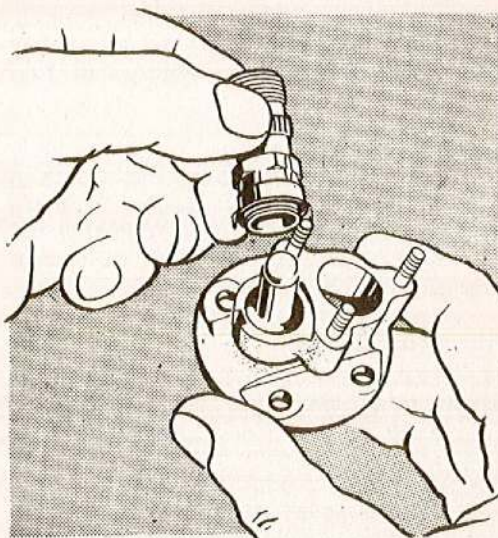
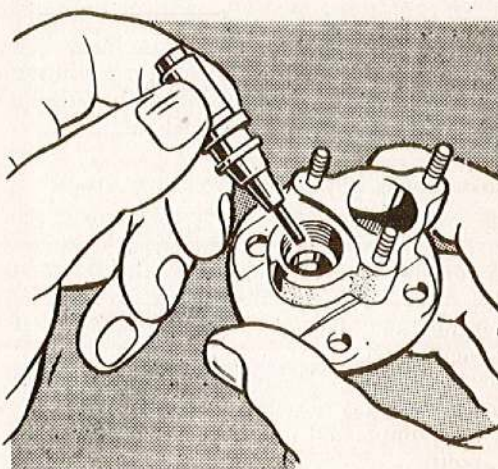

Fig. 5. Removing the H.T. gland nut
Fig. 6. Removing the H.T. electrode
11. Unscrew the insulated gland nut retaining the H.T. electrode (fig. 5). Remove the locking sleeve, H.T. electrode and gland washer (fig. 6). Discard the locking sleeve and washer. Unscrew the fuel inlet union and shake out the filter. Discard the aluminium washer.